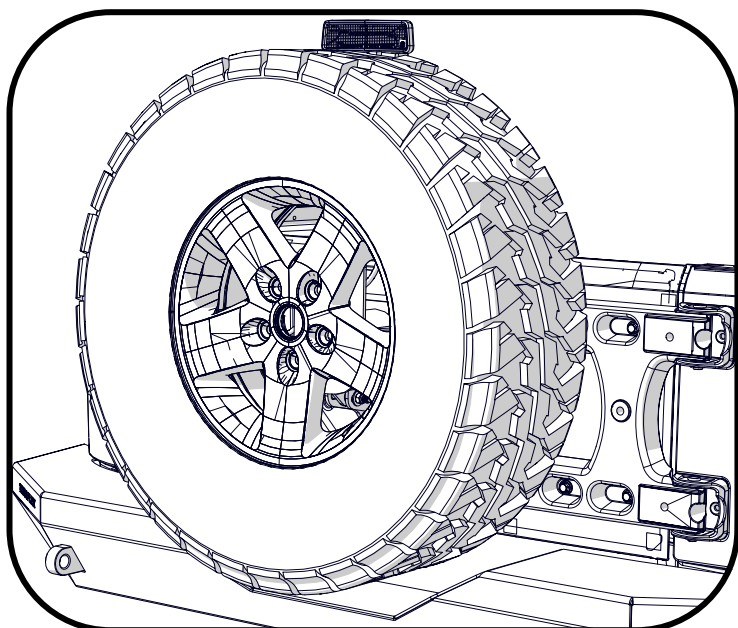

Figure 7
7. With the spare tire loosely installed adjust the height so the light will be visible. Tighten the four light extension mounting bolts to 8 ft-lbs. (Figure 7)